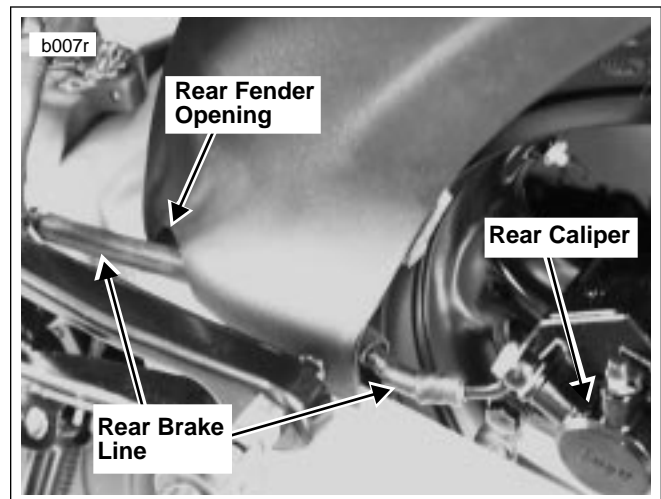

Figure 5. Rear Brake Line Routing
17. See Figure 5. Working from the right side, install **new** brake line and align metal portion of brake line with rear master cylinder. Route caliper side of brake line in front of tie bar and through rear fender opening to rear caliper.